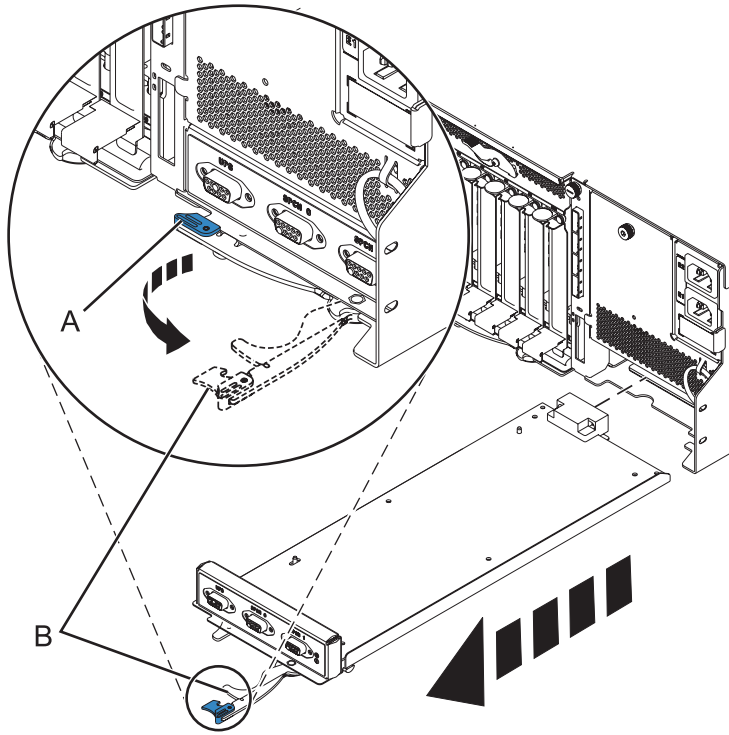

Figure 79. Remove the enclosure management controller
- b. Pinch the latch (A) to unlock the handle (B). See Figure 79 on page 87.